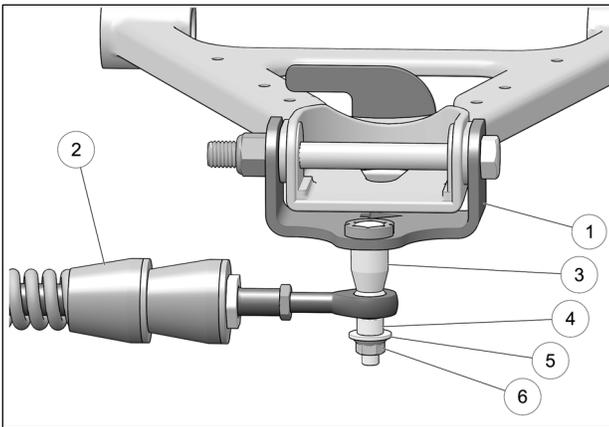

Fig. 12
11. Attach stabilizing rod (2) to anchor bracket (1), using long spacer bushing (3), short spacer bushing (4), flat washer (5) and nut (6). Torque to 70 N•m [52 lb•ft]. See Fig. 12